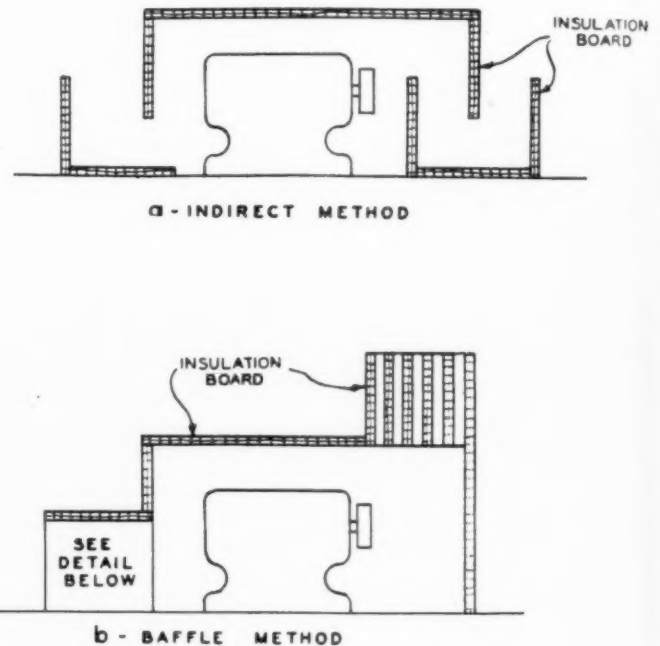

Figure 8. Methods of constructing insulation board hoods for motors and machines.
**Air borne noises** can often be cut down by building a hood lined with insulation board. This type of material is especially satisfactory for this purpose because it is light, provides the necessary sound absorption on the inside of the hood, and does not tend to vibrate. Such hoods should be constructed so as entirely to cover the machine or motor in question. Two suggested constructions are shown in Figure 8.